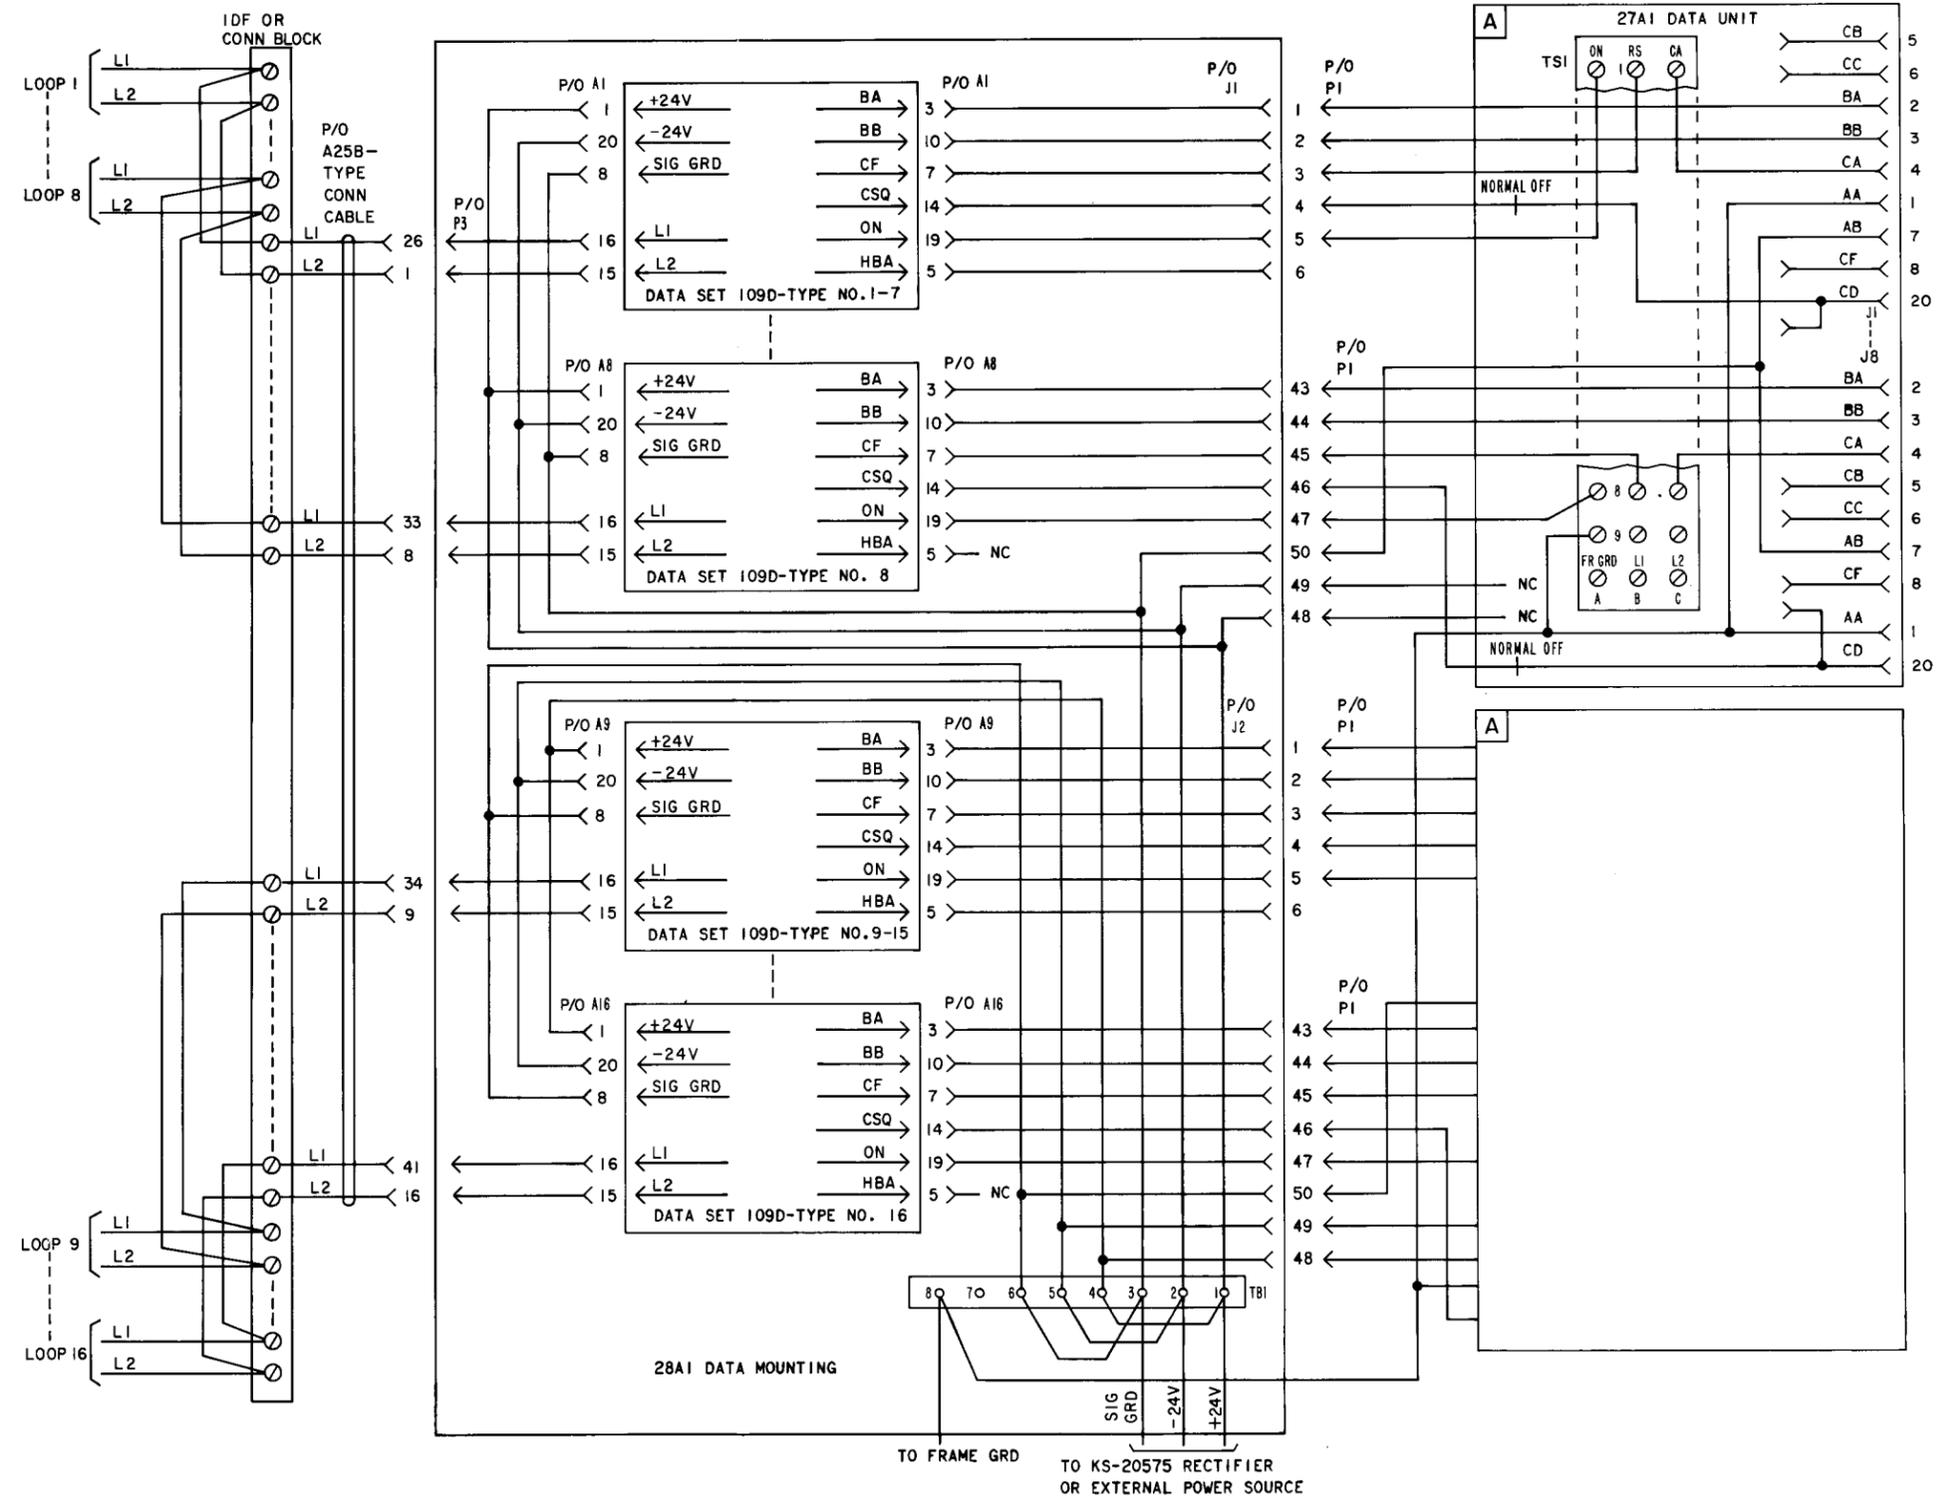

Fig. 1—Data Set 109D-Type—Multiple Data Set Arrangement—Interconnection Diagram
**3.01** The interconnection diagram of Fig. 1 shows the interconnections for a typical Data Set 109D-type multiple data set arrangement of 16 data sets.